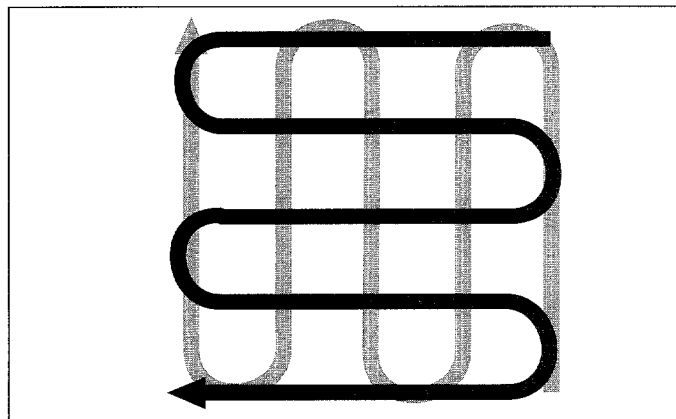

Figure 13: Make a second set of passes at a right angle over the first set of passes.
- After going up and down the rows in one direction, make second passes at a right angle across all the original passes. See Figure 13. Again, overlap each pass to thoroughly pulverize the entire seedbed area. In very hard ground, it may take three (3) or four (4) passes before the desired depth is achieved.